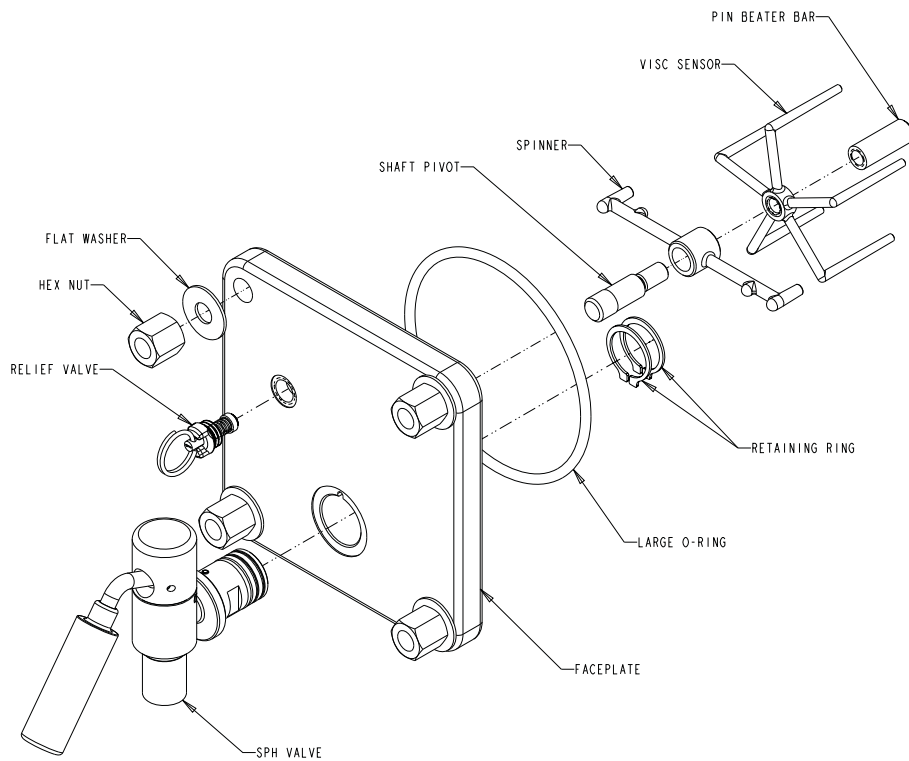

Figure 11.
5.	Disassemble the dispensing valve (see Figure 11).